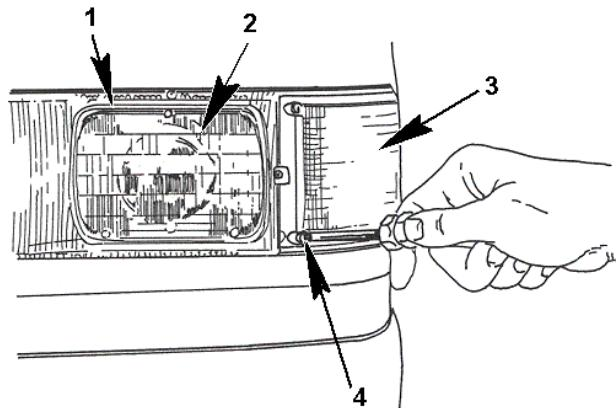

Figure 227 G47005227.TIF **Removing Headlight Bezel**
1. Remove screws that secure turn signal lens assembly (Fig. 227, Item 4).